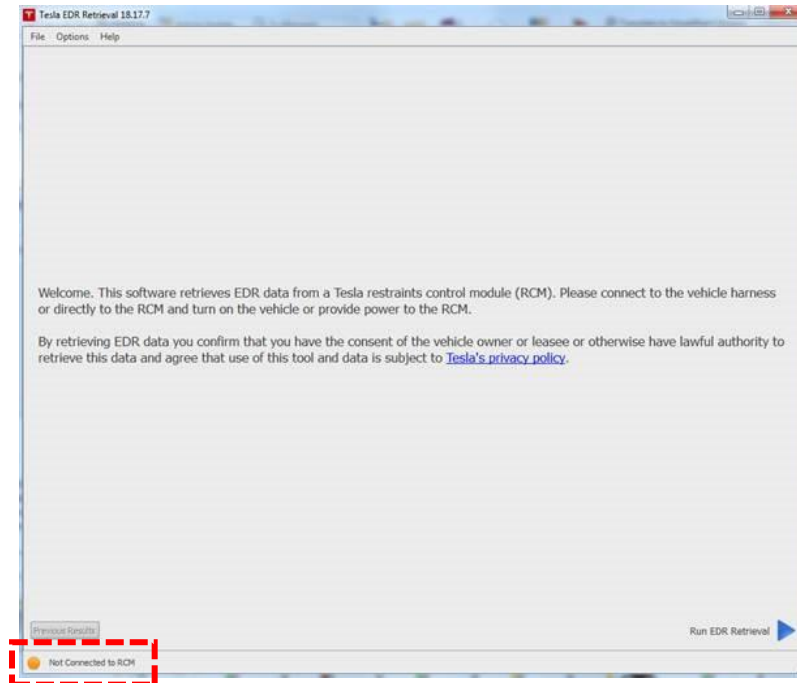

Figure 42. EDR program not successfully connected
- If the Tesla EDR Retrieval Program is communicating with the PCAN-USB adapter, but is not communicating with the RCM, a message displays “Not Connected to RCM” (Figure 42)